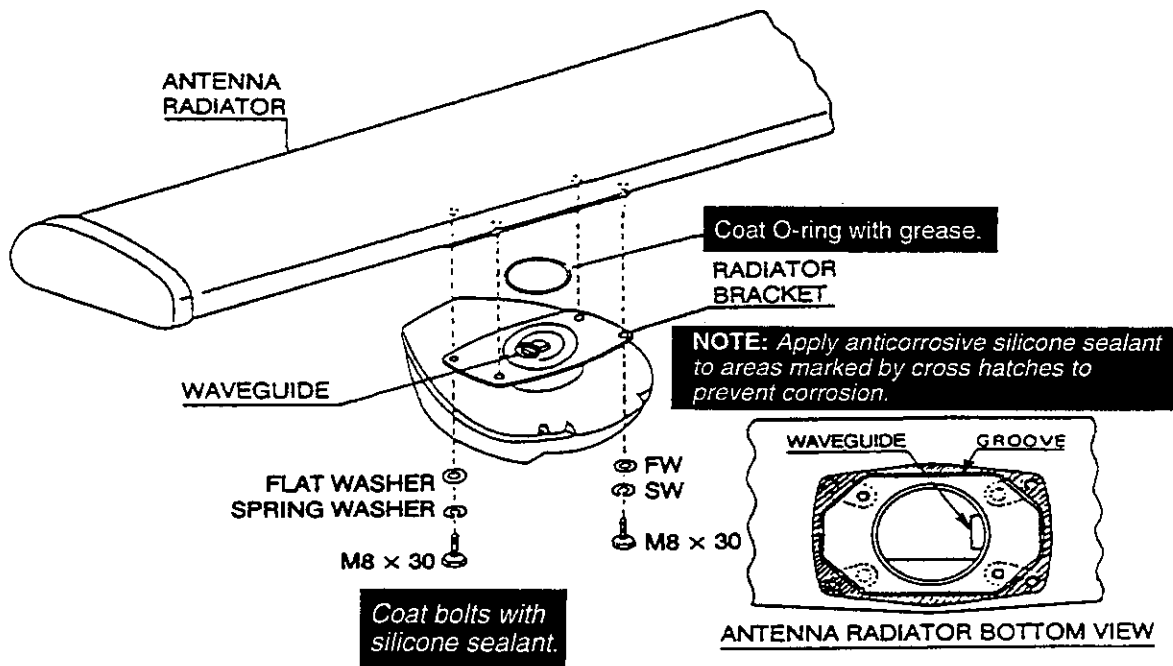
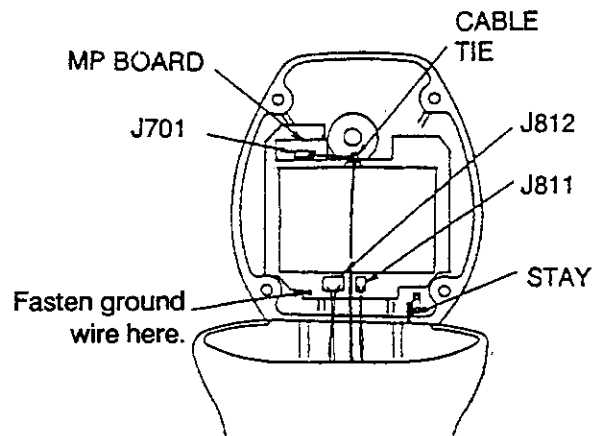

Figure 5-6 Fastening the radiator to the radiator bracket
Figure 5-7 Scanner unit, cover opened
- 3) Now is the time to fix the radiator to the radiator bracket. Remove the waveguide cap on the radiator bracket and orient the radiator bracket as shown in Figure 5-6. Referring to Figure 5-7, apply grease to the O-ring and set it to the center of the radiator bracket. Coat the radiator fixing bolts with silicone sealant. Fasten the radiator to the radiator bracket with the FURUNO logo on the radiator facing ship's bow.
- 4) Open the scanner housing cover and fix the stay as shown in Figure 5-7.
- 5) One end of the cable with 15-, 9- and 7-way plugs has already been connected to RTB-9100 inside the scanner housing. Mate the 15- and 9-way plugs with jacks J812 and J811 on the transceiver module, respectively. Connect the 7-way plug to jack J701 on the MP Board. Secure the cable between RTB-9100 and J701 with the cable tie as shown in Figure 5-7.
- 6) Fasten the ground wire (black) of the signal cable to the chassis as shown in Figure 5-7.